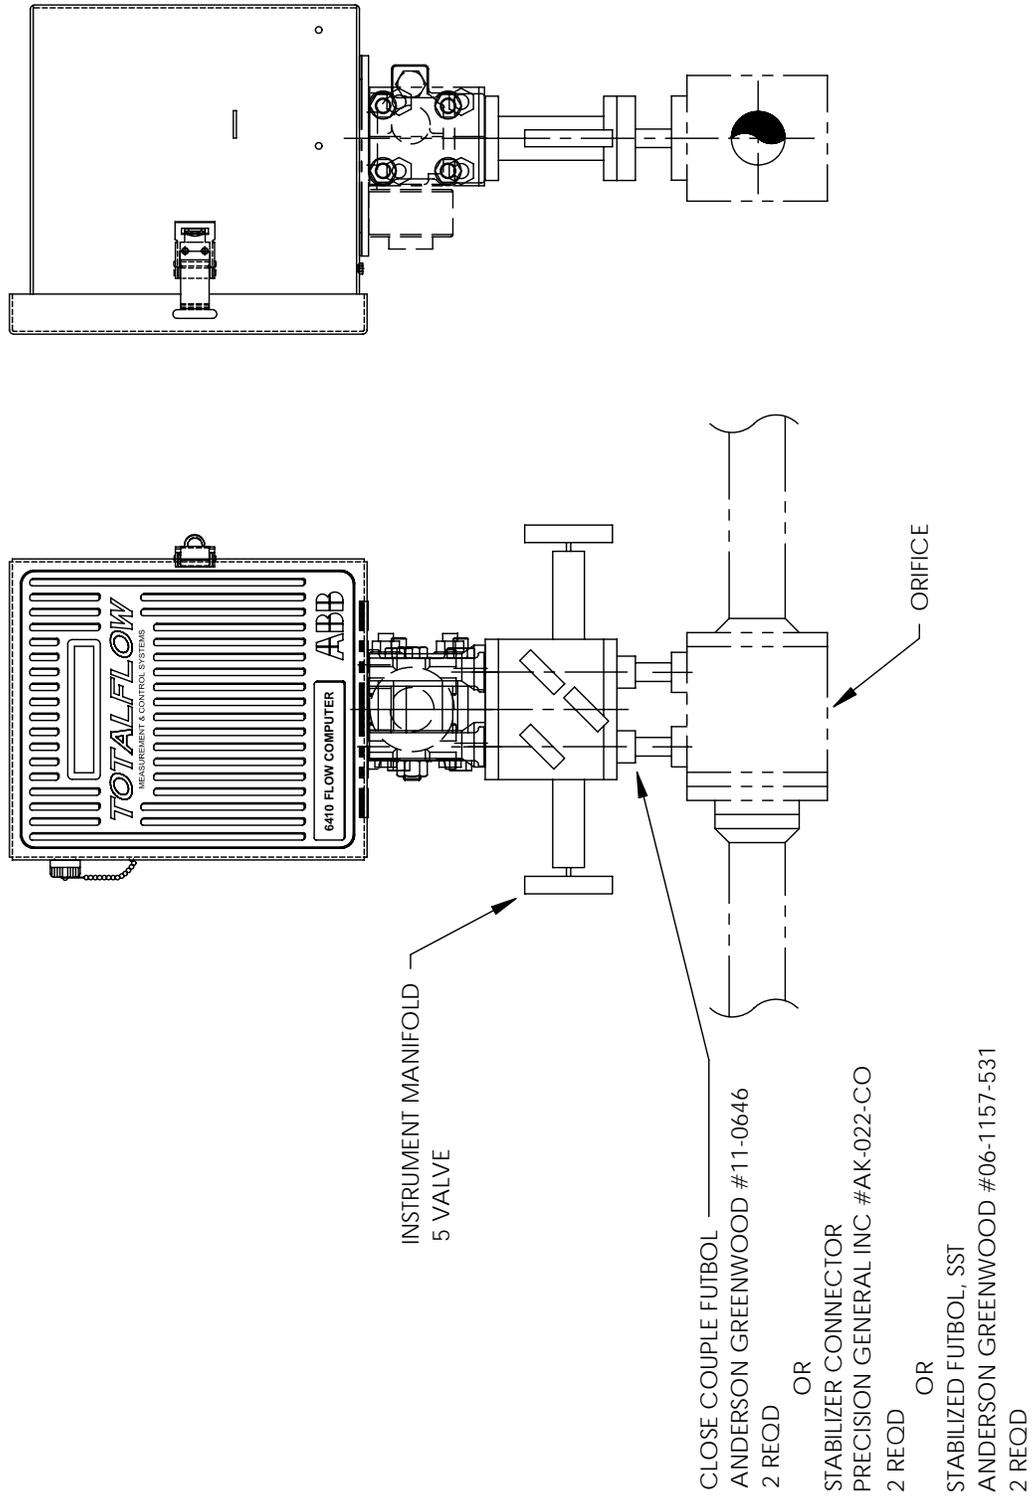

Figure 2-8. Model 6410, Direct Mount
If you are installing the FCU directly to an instrument manifold use this procedure. Before you begin, review the procedure and the Direct Mount Outline Drawings; see Figures 2-8 or 2-9.
1.	Referring to Figures 2-8 or 2-9 FCU Outline Drawings, attach the AMU to the instrument manifold. Before aligning with the manifold ensure that Teflon seal rings are in place around the two process ports.
3.	Refer to Figure 2-8 or 2-9 and complete installation.